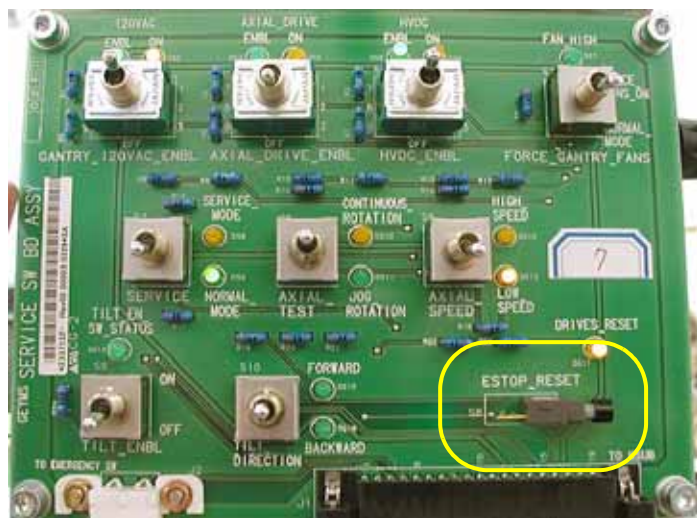

Figure 2-4 Service Switch Panel
- 5.) Push the Service Switch Panel reset button (see Figure 2-4).
- 11.) Press one of the **RESET** buttons to turn on X-RAY DRIVES POWER. (See Figure 2-4).